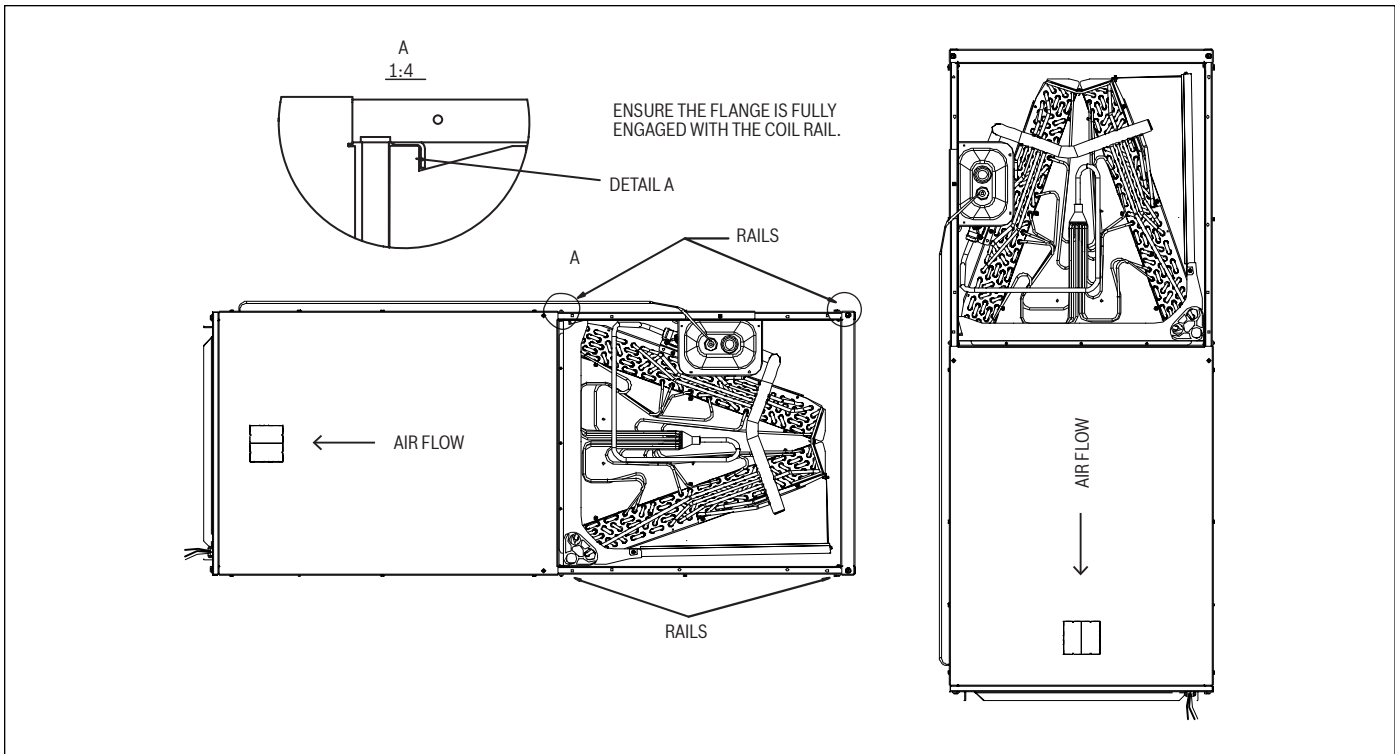

Figure 13 Vertical downflow & horizontal left applications
4. Replace the coil in the correct orientation and secure in place. Ensure the flanges on the evaporator coil are engaged with the guide rail inside the cabinet. (Figure 13).